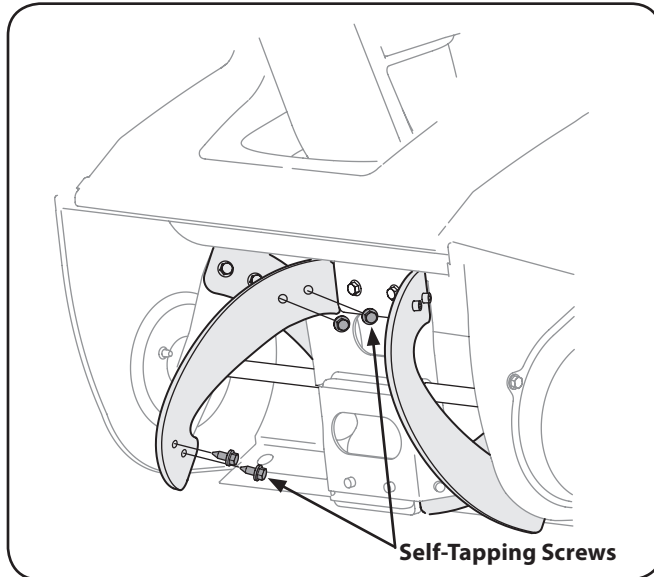

Figure 7-3
3. Remove the oil drain plug, Figure 7-3.
1. Remove the existing rubber paddles by unthreading the self-tapping screws which secure them to the auger. See Fig. 7-3.